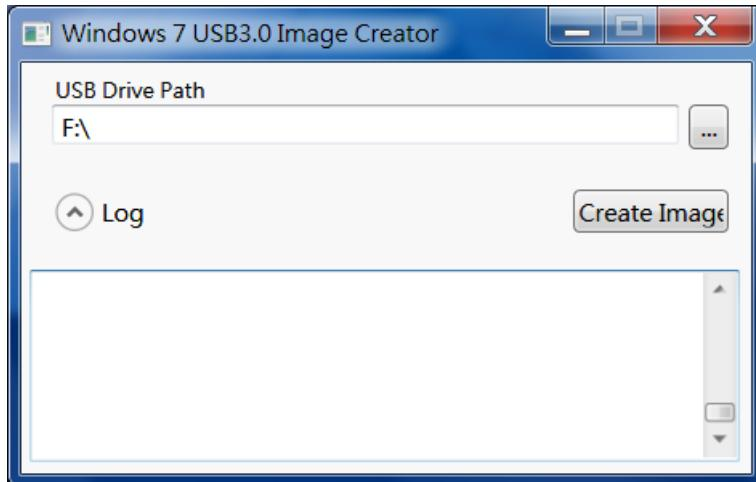

Figure 4-23: Windows 7 USB 3.0 Creator Utility
Step 6: The Windows 7 USB 3.0 Creator Utility screen appears (**Figure 4-23**). Click to browse to the root of the USB drive containing the Windows 7 image.